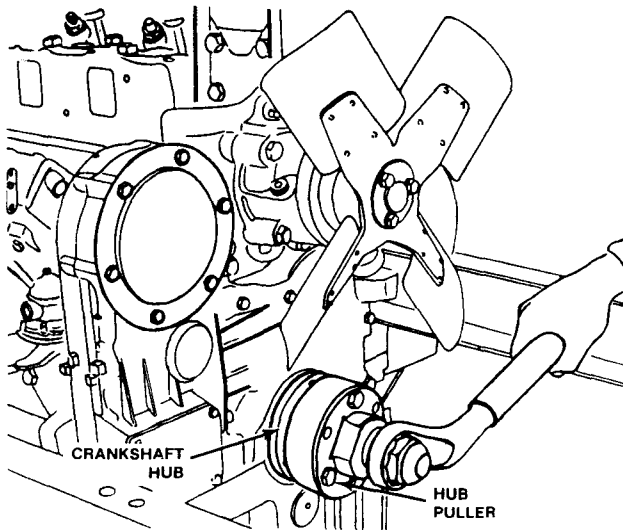

FIG. 35 Removing Hub from Crankshaft
13. Install a puller on the crankshaft hub and loosen the hub from the end of the crankshaft (Fig. 35). Remove the puller, hub nut, and hub.